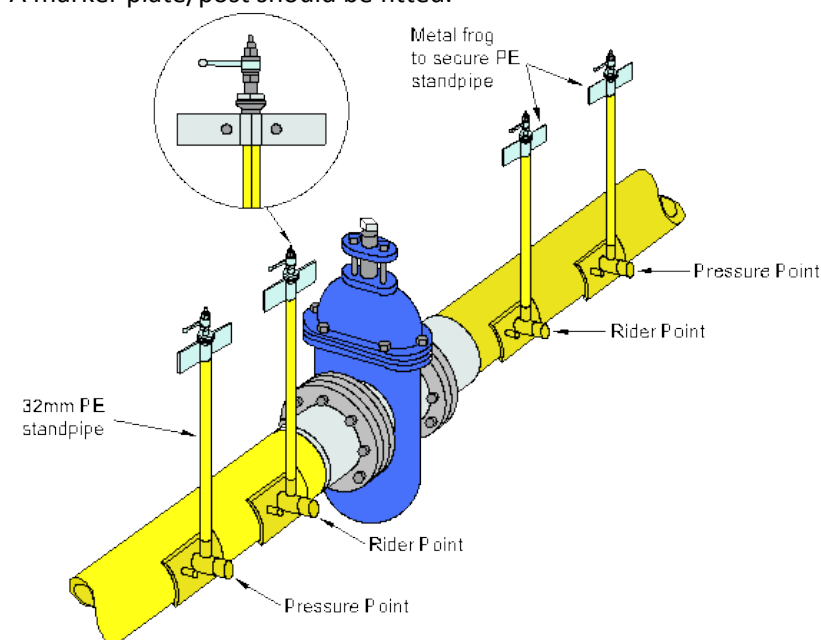

Figure G.1 Typical Strategic Valve Installation
3. A typical valve installation is shown Figure G.1.